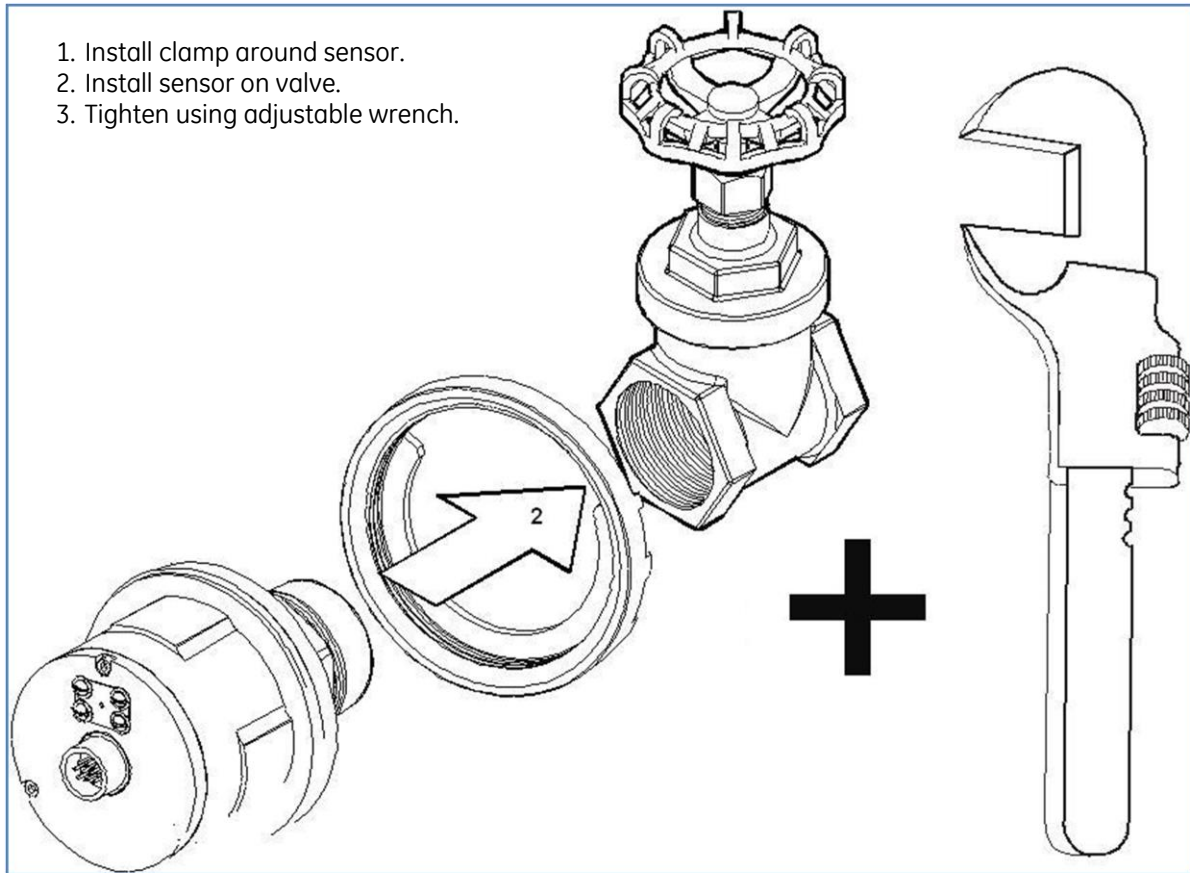

Figure 5-6: Mount the Sensor Manually onto the Valve and Tighten it, Using an Adjustable Wrench
6. Install the sensor clamp around the sensor. See Figure 5-6 overleaf.